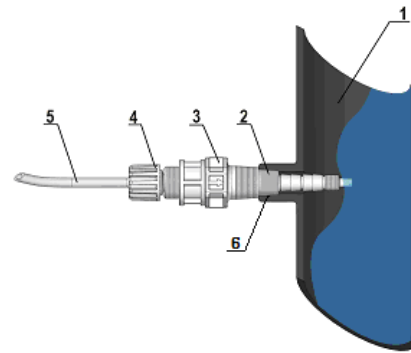

Fig. 7 - Connection assembly
Both on the flow pipe and the suction pipe avoid excessive curves in order to prevent bottlenecks in the pipe itself. In the point most suitable for the injection of the product to be dispensed, apply a 3/8" fitting or a 1/2" female gas thread on the conduct of the plant to be treated. This fitting is not supplied. Screw the injection valve to the "gasket fitting" using PTFE tape, see Fig 7. Connect the tube to the conical injection valve and secure it with the locking ring (4). The injection valve is also a non-return valve.